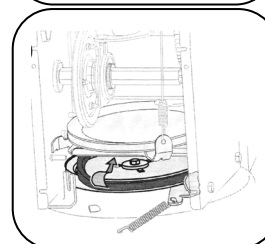

Figure 18
5. Remove the belt from around the auger pulley, and slip the belt between the support bracket and the auger pulley. Reassemble auger belt by following instructions in reverse order. See Figure 18.